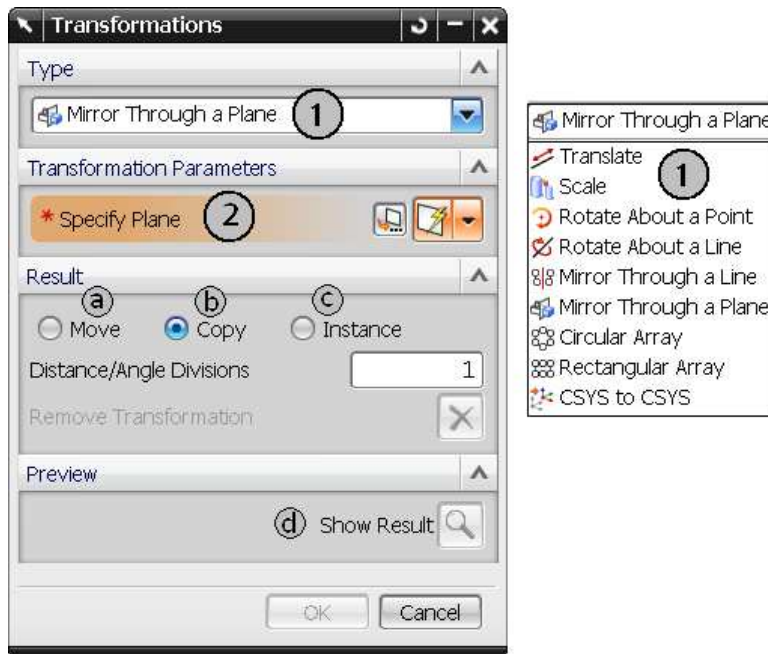

Figure 8.13. Transformation dialog box
47. A dialog box for the tool path transformation definition will appear — figure 8.13.
48. In the upper part of the dialog box — figure 8.13 (1) — we select *Type* for the transformation. On the right-hand side of the figure, there are available commands. In this case, let's select *Mirror Through a Plane*.
49. Depending on the selected command, *Transformation Parameters* will be available — figure 8.13 (2). Here, click on the *Inferred* icon and select any vertical face from the model.
- *Move* — this option transforms the tool path and it does not leave the original one — figure 8.13 (a).
- *Copy* — this option transforms the tool path and it leaves the original one but later it is independent of it — figure 8.13 (b). Changes in the original tool path are not reflected in the transformed tool path.
- *Instance* — this option transforms the tool path and it leaves the original one, but later it will be dependent on the original tool path — figure 8.13 (c). Changes in the original tool path are reflected in the transformed tool path.
52. Switch on the tool path view by the *Show Result* icon — figure 8.13 (d).